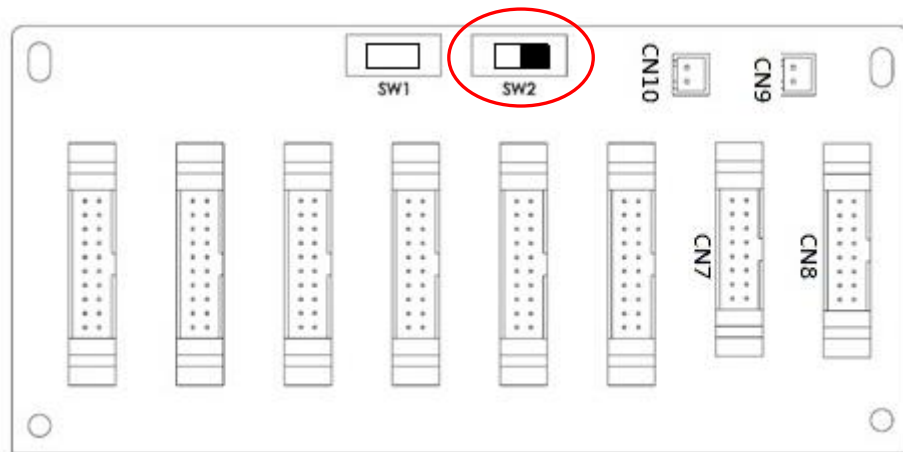

Figure 9-2 Rack 1 SW2 set to the right side
1. The parallel board(s) of the Rack 1, the SW2 must be set at the right side. Please refer to the figure 9-2 as below.